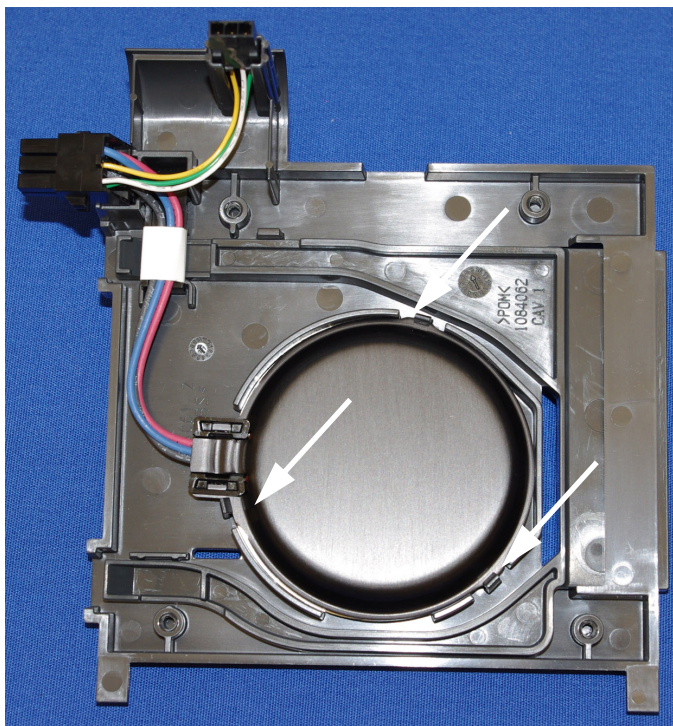

FIGURE 7-13: HEATER PLATE INSTALLATION
1. Place the Heater Plate Assembly into the Humidifier Lower Base as shown in Figure 7-13. Be sure that the Heater Plate Spring is properly seated under the Heater Plate.
2. Route the Heater Plate wiring harnesses as shown in Figure 7-13. Be sure the connectors are properly seated in their mounting locations.